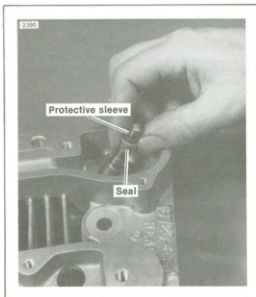

Figure 3-14. Installing Valve Guide Seal
- See Figure 3-14. Place a protective sleeve over the valve stem keeper grooves. Coat the sleeve with oil and place a new seal over the valve stem. If the seal is installed without using the protective sleeve, the seal will be damaged.